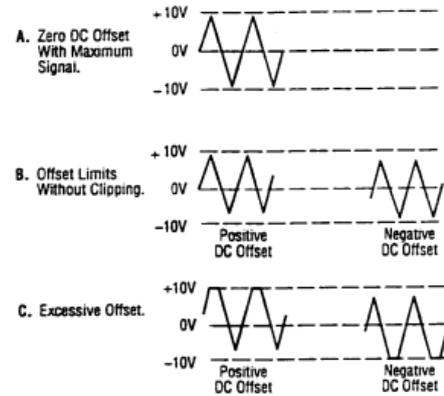

Figure 3. Use of DC OFFSET Control
- Adjust the amplitude of the output as desired using the **OUTPUT LEVEL** control (4). Rotation of this control varies the amplitude from maximum to 20 dB below maximum. An additional attenuation of -20 dB is available by engaging the **-20 dB** switch (11). The attenuation factors can be combined for a total of -40 dB. The maximum signal level is 10 V p-p (into 50 Ω).
7. A superimposed DC component can be added to the output signal by engaging the **DC OFFSET** switch (14) to enable operation of the **DC OFFSET** control (5). Rotation of this control adds a positive or negative DC component to the output signal. The DC component introduced is independent of the **OUTPUT LEVEL** control and can be varied by ± 10 volts open circuited or ± 5 volts into 50Ω . The DC Offset does not affect the **TTL/CMOS** output jack. The effect of DC OFFSET is shown in Fig. 3.
- Remember that the output signal swing of the generator is limited to ± 10 volts open circuited or ± 5 volts into 50Ω , and applies to the combined peak-to-peak signal and DC offset. Clipping occurs slightly above these levels. Fig. 3 illustrates the various operating conditions encountered when using the DC offset. If the desired output signal is large or if a large DC offset is required, an oscilloscope should be used to make sure that the desired signal is obtained without undesirable clipping.